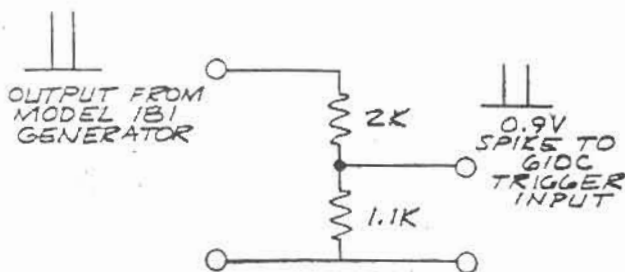

Figure 4-2 External Trigger Verification/Recalibration Set-up
- 22. Connect the Pulse Generator through the attenuating network to the TRIGGER INPUT connector, located at the rear of the instrument. See Figure 4-2.